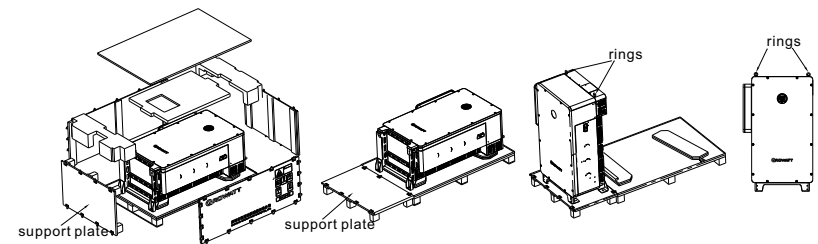

Fig 5.6 Hoisting the WIT Inverter
- 1> As shown in Fig 5.6 below, unpack the WIT Inverter (remove the top panel and the support plates). Then piece the support plates together with the bottom panel. Install the hoisting rings and pull out the handles. Turn the WIT Inverter upright using the handles. Run a rope strong enough to bear the inverter through the hoisting rings and hoist the equipment, and then move the inverter to the installation position;